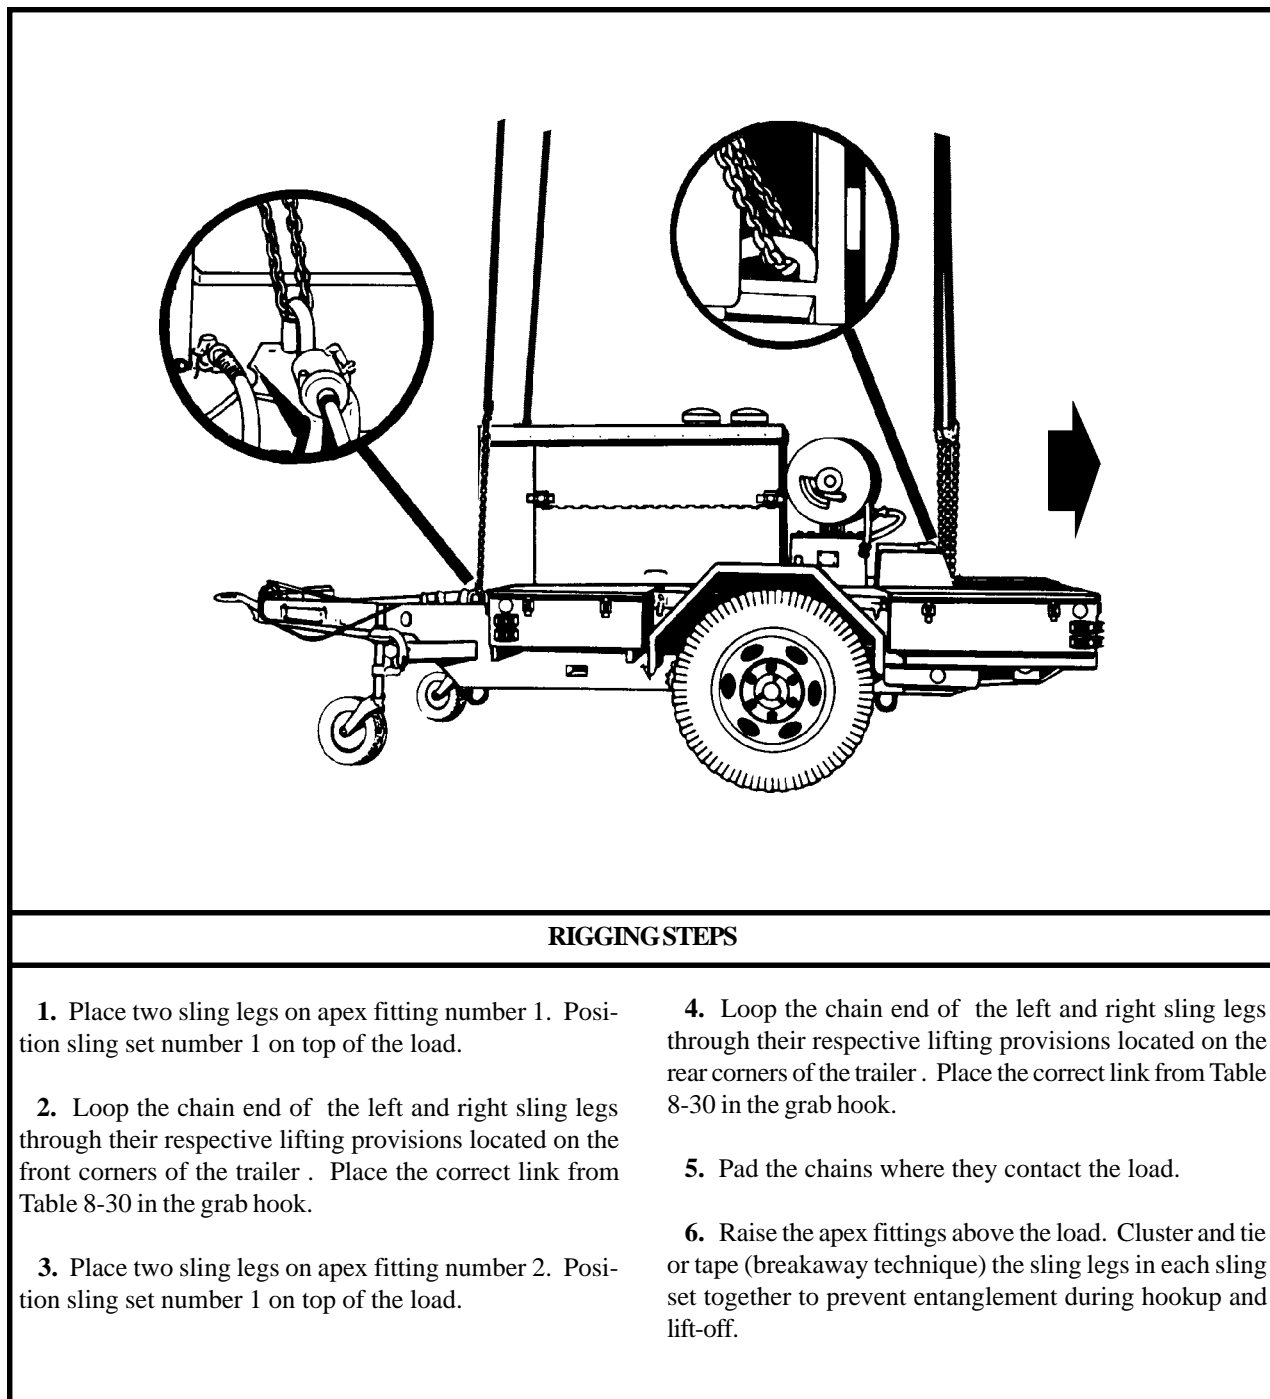

Figure 8-30. Tool Outfits on M353 Trailer
(2) **Rigging.** Rig the load according to the steps in Figure 8-30.